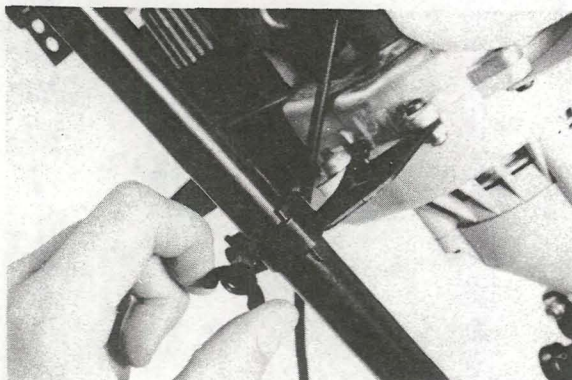

Fig. 7
4. Center the handlebars and tighten the 2 clamp T-bolts and 4 handlebar bracket screws (Figs. 7 and 8).